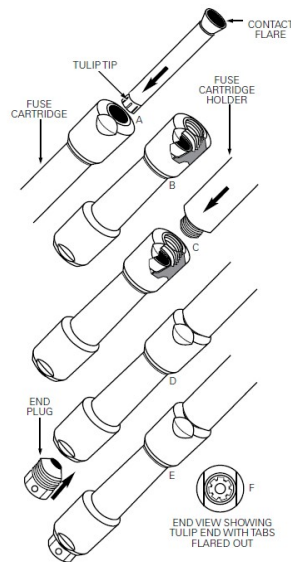

figure 8-9 Fuse link replacement
Step 3 Insert replacement fuse link into fuse cartridge, see "figure 8-9 Fuse link replacement"
Failure to properly tighten the fuse cartridge holder and the end plug to the fuse cartridge will result in a poor electrical connection, resulting in damage to the Bay-O-Net and the transformer. The steps detailed in "figure 8-9 Fuse link replacement" should be followed in proper order to ensure a good electrical connection.